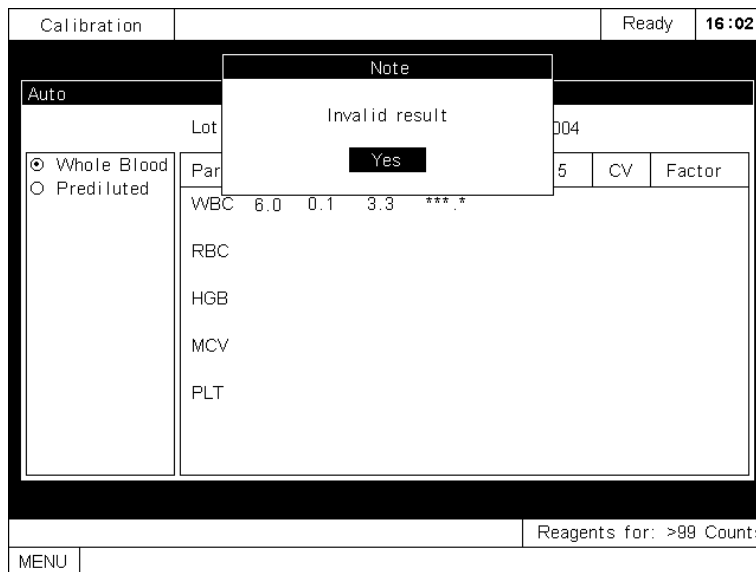

Figure 5-12 The warning dialog box
- If the obtained result is invalid (***), a dialog will pop up to warn you, as Figure 5-12 shows. Press [ENTER] to close the dialog box and discard the result.